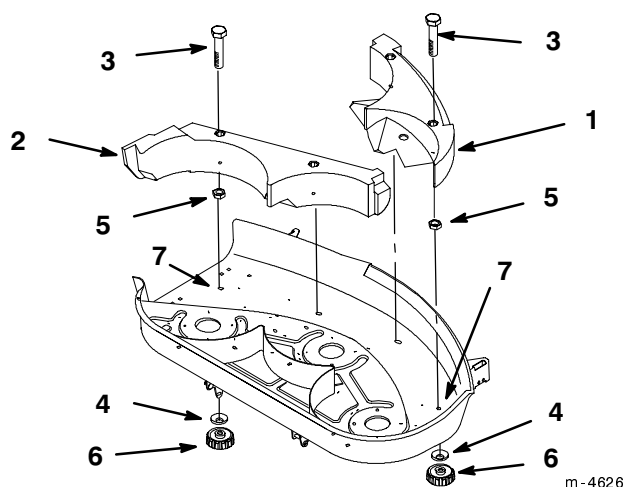

Figure 1
2. Remove the knobs and washers from the left and right side baffles (Fig. 1). Lift the baffles from the deck.
3. Install (2) 3/8-16 x 3/4" carriage bolts (from the underside of the mower), (2) 1/2" washers, and (2) 3/8" locknuts in the (2) open slotted holes of the mower shown in Figure 1.